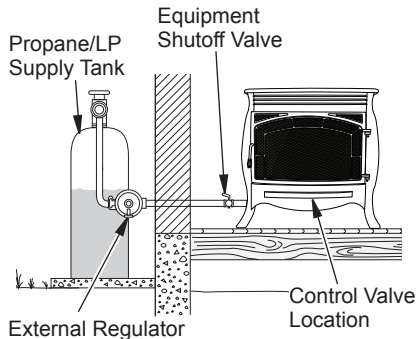

Figure 14 - Checking Gas Joints for Propane/LP Gas
valve for propane/LP (see Figure 14 or 15). Apply a noncorrosive leak detection fluid to all joints. Bubbles forming show a leak.
4. Check all joints from equipment shutoff valve to control valve (see Figure 14 or 15, page 14). Apply a noncorrosive leak detection fluid to all joints. Bubbles forming show a leak.